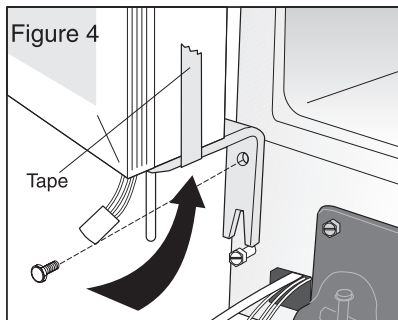

Figure 4
5. Place a strip of tape along door bottom, over lower hinge and up the side of the door. This will hold hinge in place when door is removed (Figure 4).
6. **Loosen, but DO NOT REMOVE, bottom lower hinge bolt.** Remove top lower hinge bolt (Figure 4).
8. Carefully lift door up and off loosened lower hinge bolt (Figure 4).